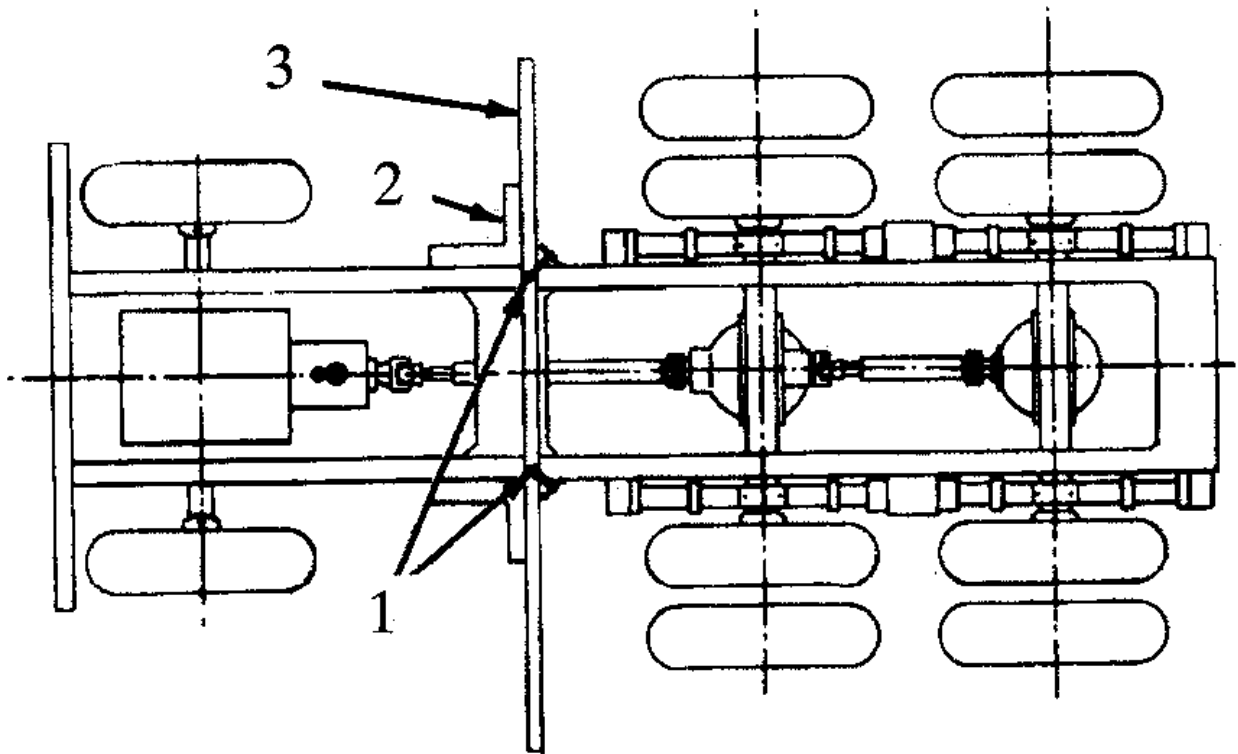

Figure 9 Straightedge Location On Frame
1. Clamp a straightedge to top of frame rail ahead of forward rear axle on 6x4 vehicles and ahead of rear axles on 4x2 vehicles. Use a framing square against straightedge and outside surface of frame sidemember to insure straightedge is perpendicular to frame as in Figure 9 .